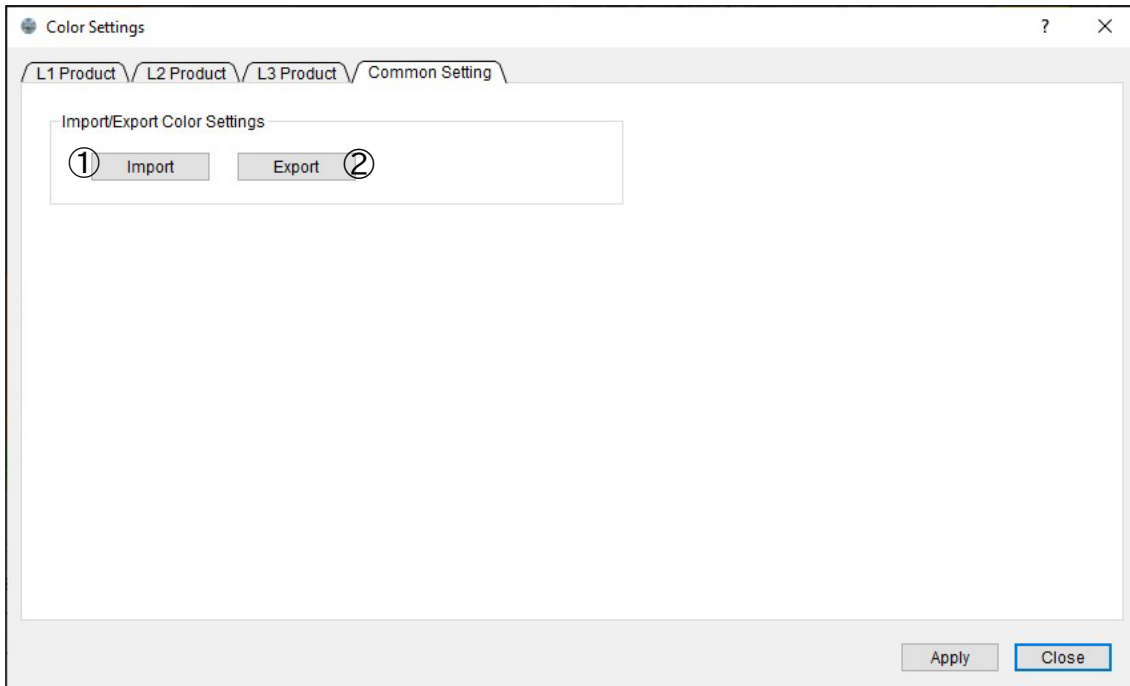

Figure 10-10 Explanation of Common Color Setting Operation
Table 10-3 describes the items ① and ② in the Import and Export section of the Color Settings shown in Figure 10-10, along with their actions when selected.